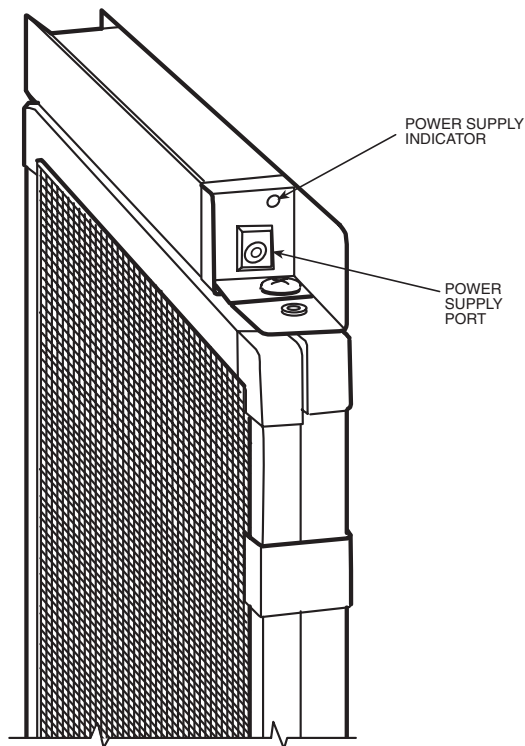

Fig. 3 — Power Supply Details
4. Insert the power plug into the port on the electronic air cleaner. See Fig. 3. If it is necessary to pass the cord through a hole in the wall of the unit or through an access door, electrical tape, or the supplied rubber grommet, should be wrapped around the cord at the point of entry for protection.
While the electronic air cleaner is operating, the power supply light will be on. See Fig. 3. If the light does not come on when power is supplied to the electronic air cleaner, refer to the Troubleshooting section.
1. Unplug the power cord from the electronic air cleaner and remove the air cleaner from the filter rack. See Fig. 3.